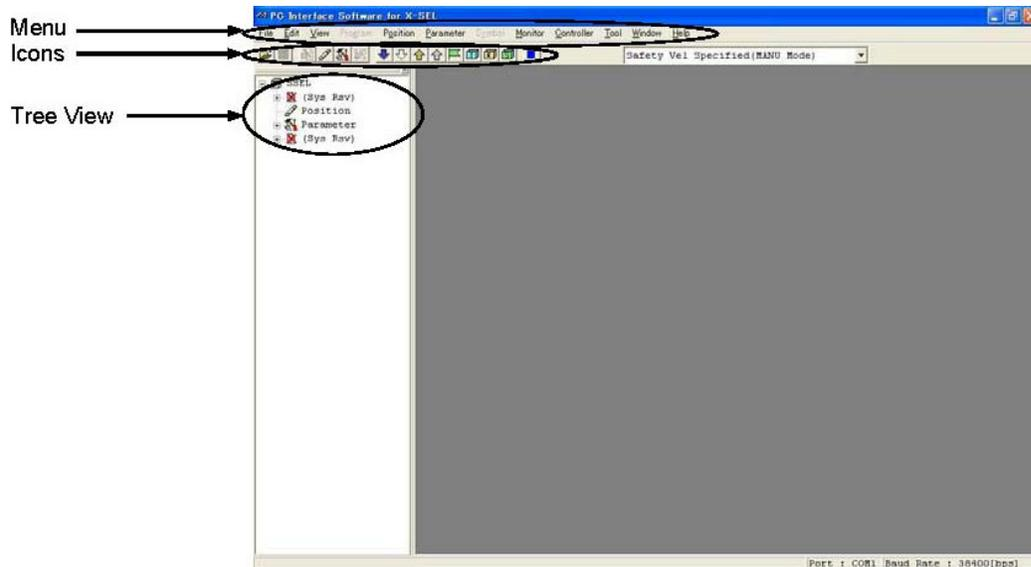

Fig. 3.6 Online Screen (SSEL Controller in the Positioner Mode)
(6) SSEL controller in the positioner mode
When this software has been started, the main window in Fig. 3.6 will open showing the menu items with icons on the tool bar in the case of the SSEL controller in the positioner mode. The tree view appearing on the left side of the window can be displayed by clicking View (V) from the menu bar and then selecting Tree View (T). (Initial window: Main menu)